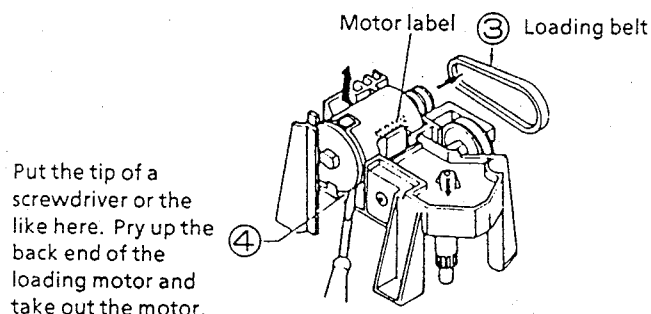

Figure 1-70.
3. Take out the loading belt ③.
4. Pry up the back end of the loading motor with a screwdriver or the like as in Figure 1-70 and take out the motor.